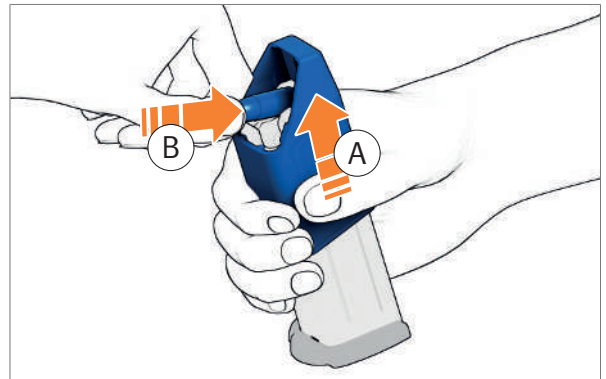

Fig. 52: Pushing cartridge to the rear
4. Lift loading aid (Fig. 52).
5. Push cartridge all the way to the rear (Fig. 52).